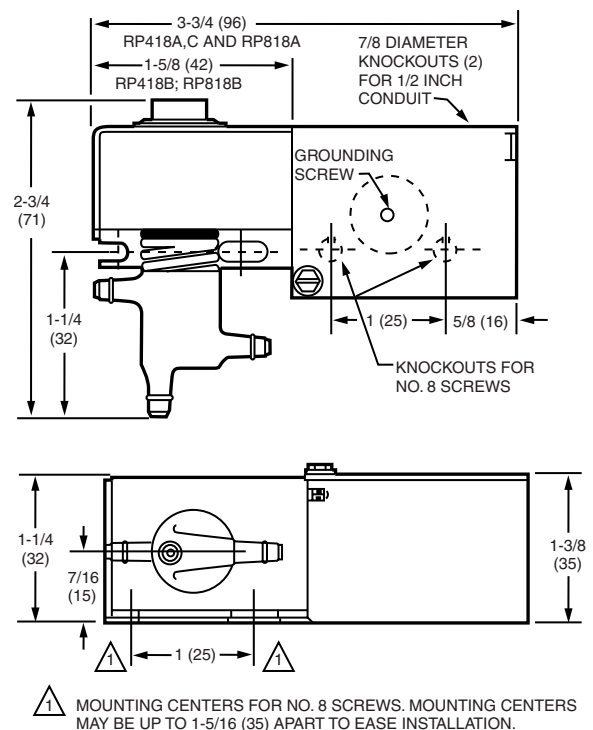

Fig. 1. RP418 and RP818 dimensions in in. (mm).
1. Position the relay on the duct or wall and mark the knockout mounting holes or mark the first hole and measure 1 in. (25mm) to the second hole. See Fig. 1.